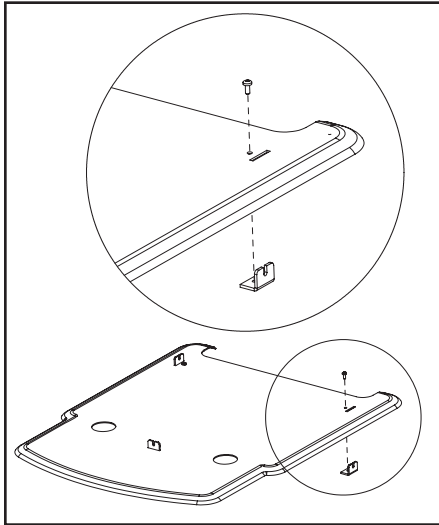

Figure 13: Installing tabs into hearth pad.
1. Slide a hearth pad tab through each of the three (3) slots on the hearth pad so the slotted end is up and secure in place with a T-20 screw through the pad into the tab (refer to Figure 13).